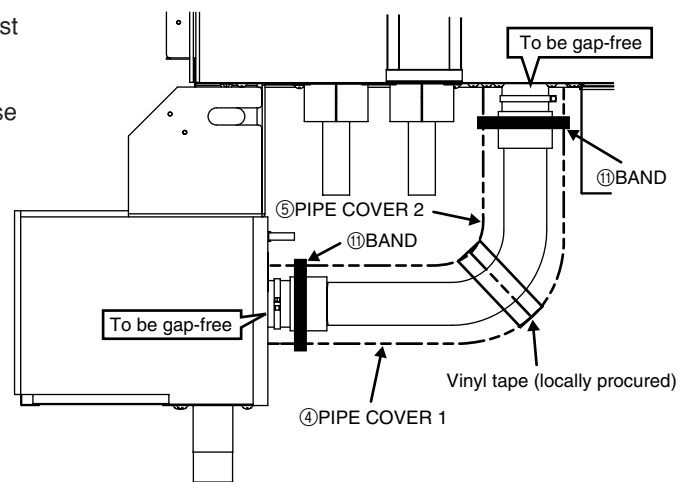

Fig. 6
- (3) Attach ④PIPE COVER 1 and ⑤PIPE COVER 2 to ③DRAIN HOSE 1 flush against each other and against the unit and the drain pump, and then secure them in place with ⑪BANDS. Wrap the pipe cover connection with vinyl tape to close the gap. (Fig. 6)